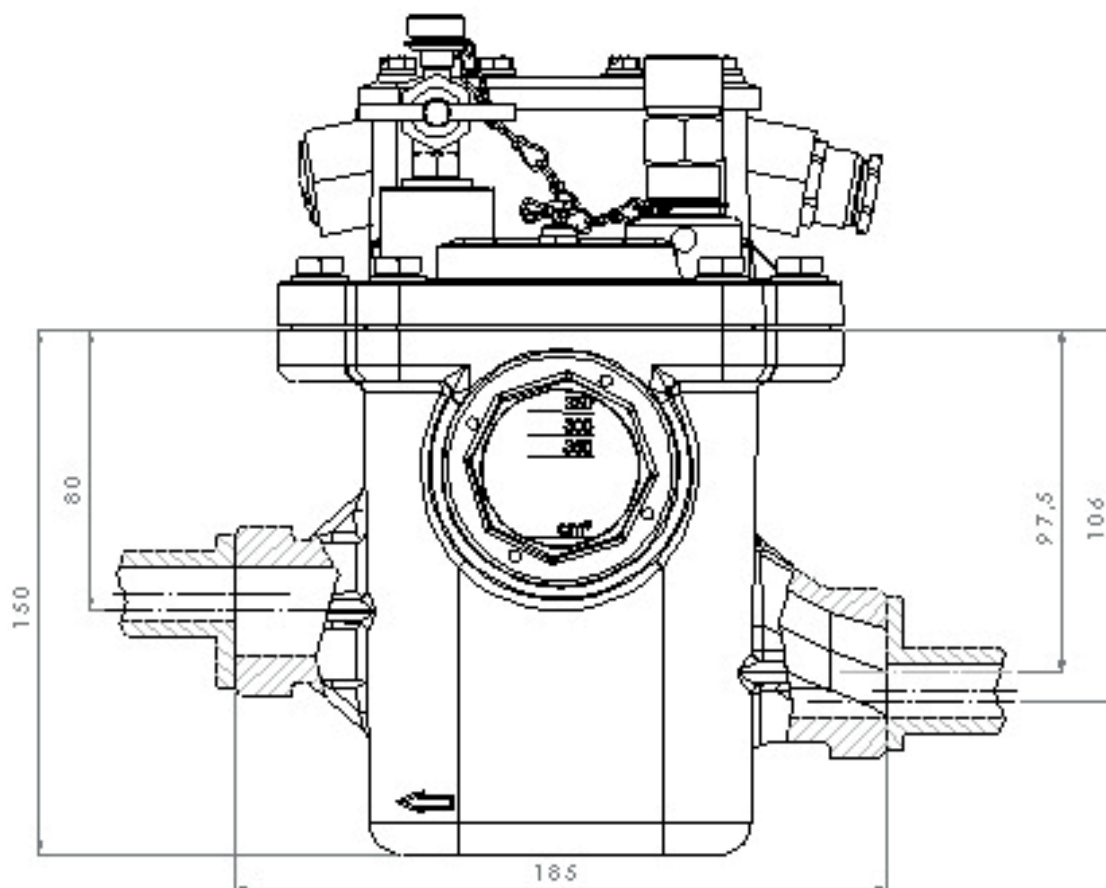

Figure 7 - Buchholz Relay Type 22 (BB25)
- **Proper function of the Buchholz relay BB 25 requires a piping offset of 17.5 mm (see Figure 7).**
- a DN 25 piping is used. If this is not possible for design reasons, the piping or its connection to the relay have to be dimensioned such that drainage of the insulating liquid from the relay to the transformer tank as well as the escape of excessive relay gas to the conservator are ensured in any case (see Figure 7). In this case the quantity (l/min) corresponding to the oil flow (m/s) depends on the actual cross-section of the piping.